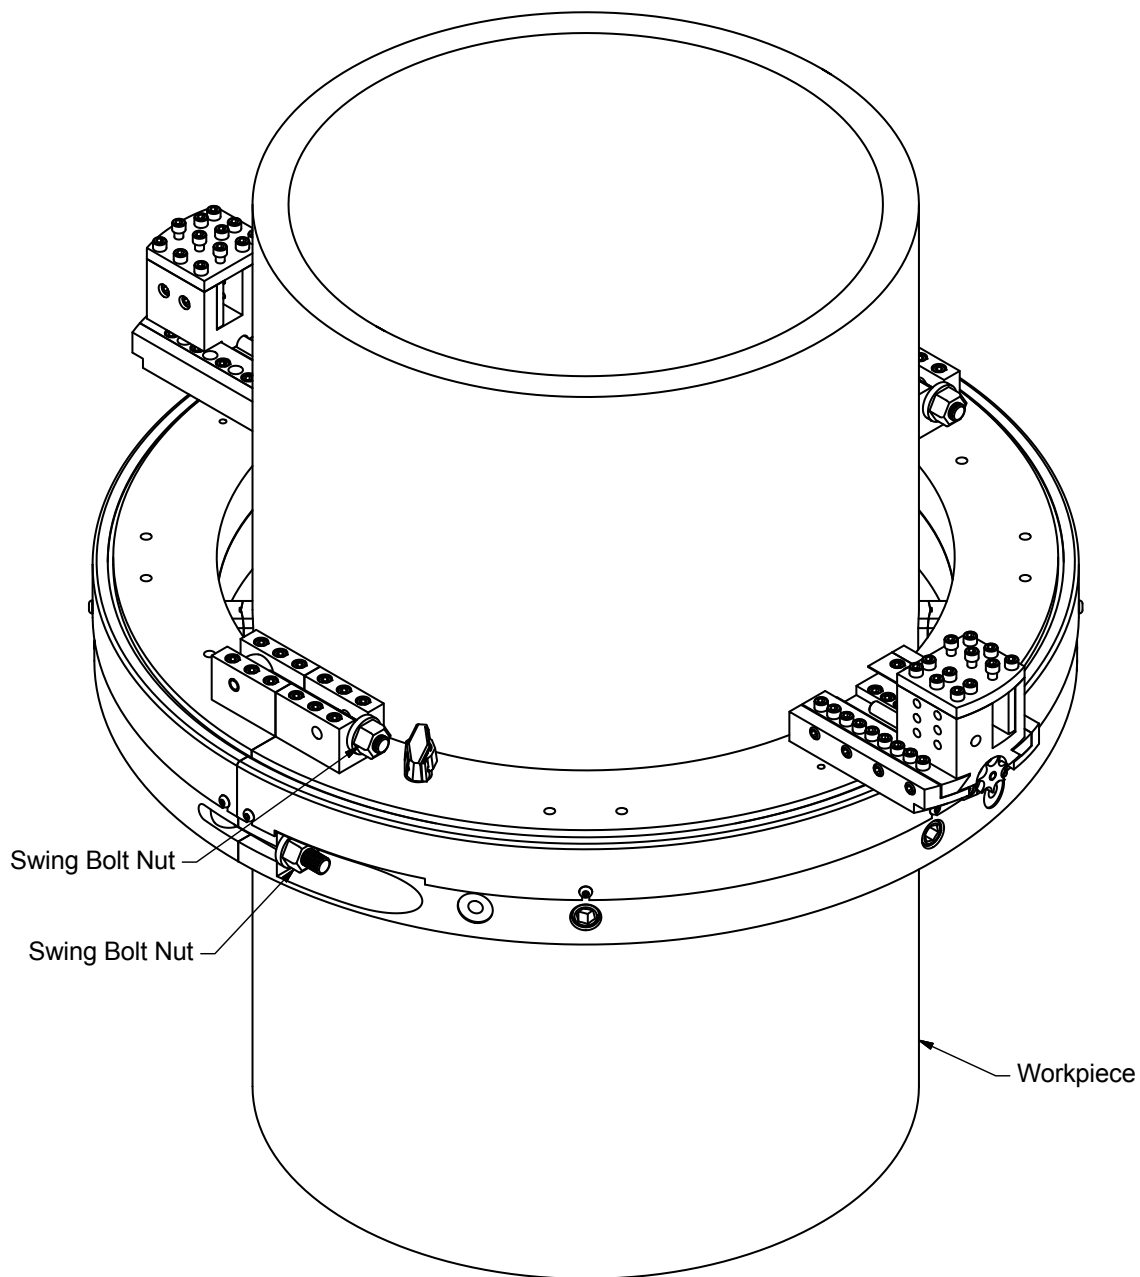

Figure 2-4 – Install Clamshell on Workpiece
4. Place the clamshell halves around the workpiece. Close the clamshell by tightening the four swing bolt nuts. Tighten the locators against the workpiece. Final tightening will be completed after the clamshell is centered and squared to the workpiece. See Figure 2-4.